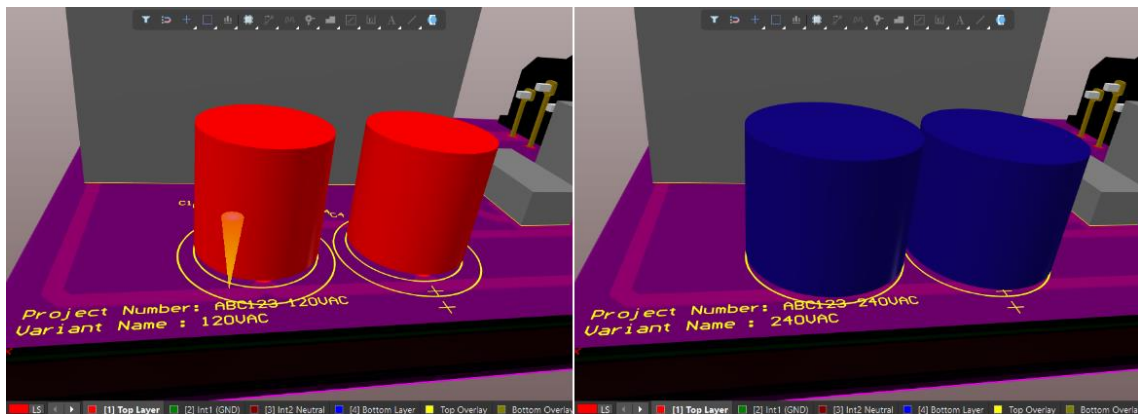

Figure 20. 3D View of the two Variants
69. Switch between the 120VAC and 240VAC modes in the *Projects* panel. Confirm that 120VAC and 240VAC variant modes display the 3D, as shown in Figure 20.